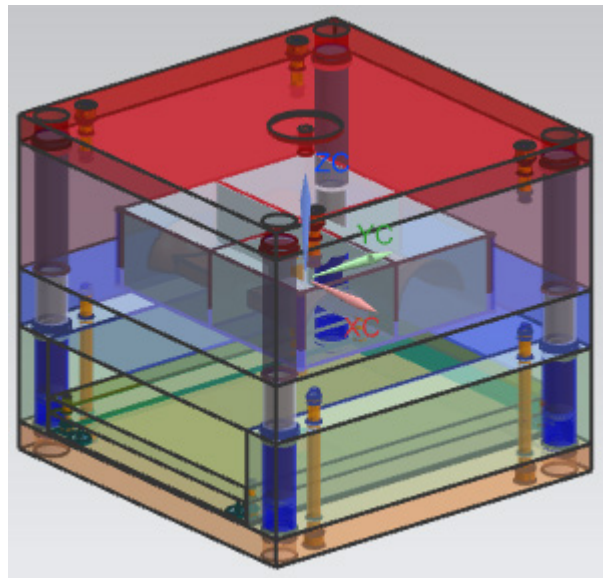

Figure 16-113 The Mold Plate assembly
3. Select **5050**, **2**, **106**, **36**, and **106** from the **index**, **TCP_type**, **AP_h**, **BP_h**, and **CP_h** drop-down list respectively in the **Details** rollout. Next, choose the **OK** button to close the dialog box; the Mold plates are added to the assembly, refer to Figure 16-113.